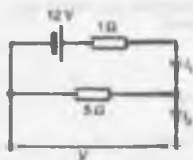

Figure 13.90
- 4 For the circuit shown in Fig. 13.90, voltage V is:
- 5 For the circuit shown in Fig. 13.90, current I_1 is:
- 6 For the circuit shown in Fig. 13.90, current I_2 is: